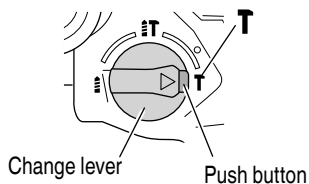

Fig. 23
This rotary hammer can be set to hammering only mode by pressing the push button and turning the change lever to the **T** mark (Fig. 23).
- (3) Turn the change lever to **T** mark (Fig. 23). Then bull point or cold chisel is locked.